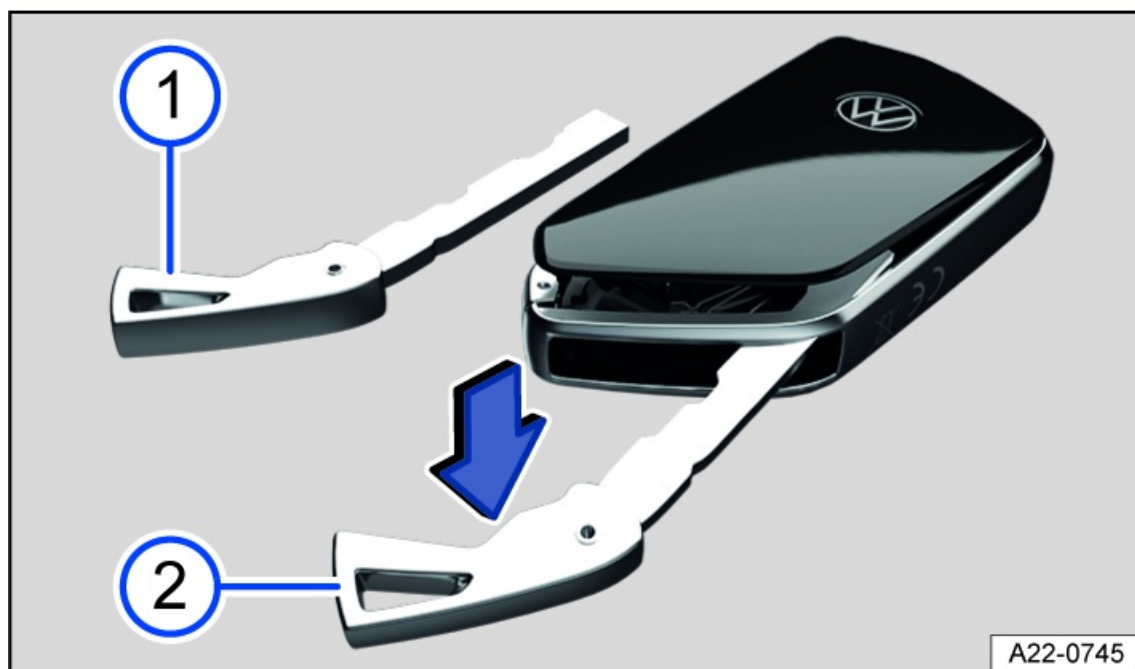

Fig. 39 Remote control vehicle key: opening the battery compartment cover.
1. Remove the emergency key fig. 39, ⇒ Emergency key.
2. Insert the emergency key in the slot, push it in the direction of the arrow and lever out the cover fig. 39.